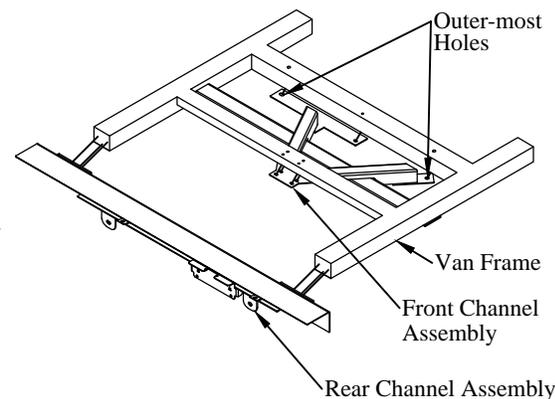

Figure 8: Front and rear channel assembly locations.
- 8. Install** the rear channel assembly on the rear of the van frame (Figure 8). Use the two (2) supplied 3/8" bolts, flat washers, lock washers, and nuts in the bottom holes. Use the four (4) vehicle bumper bolts on the top holes.
- 9. Install** the front channel assembly on the van frame (Figure 8). Use the vehicle spare tire mechanism bolts in all but the outer-most holes.
- 10. Install** the two (2) supplied 14M x 1.5 x 30mm bolts and lock washers in the front channel assembly outer-most holes (Figure 8). If the vehicle cross member is not threaded, complete steps 11-15 for each hole.